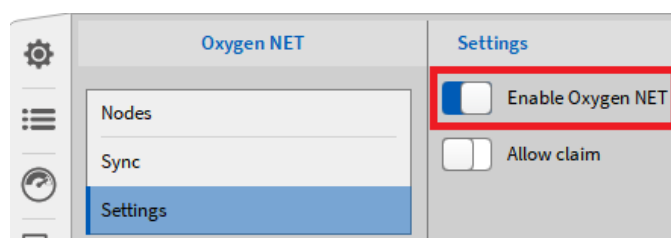

Figure 12-13: Enable OXYGEN Net
- Start OXYGEN on all measurement devices and *Enable OXYGEN Net* in the OXYGEN Net menu *Settings* (see Figure 12-13) on all devices